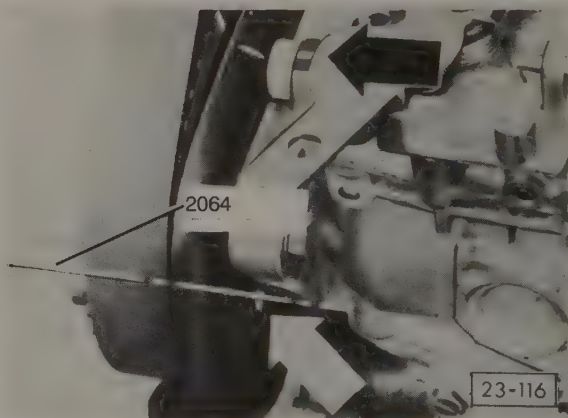

Fig. 5-17. Mark on injection pump sprocket aligned with mark on mounting plate and pump (black arrow). Installation of locking pin (white arrow) also shown.
5. Position the injection pump sprocket on the shaft and loosely install the nut. Hand-turn the sprocket until it lines up with the mounting plate and the pump body as shown in Fig. 5-17. Lock the sprocket in position as shown in Fig. 5-12 above, and torque the nut to 45 Nm (33 ft. lb.).